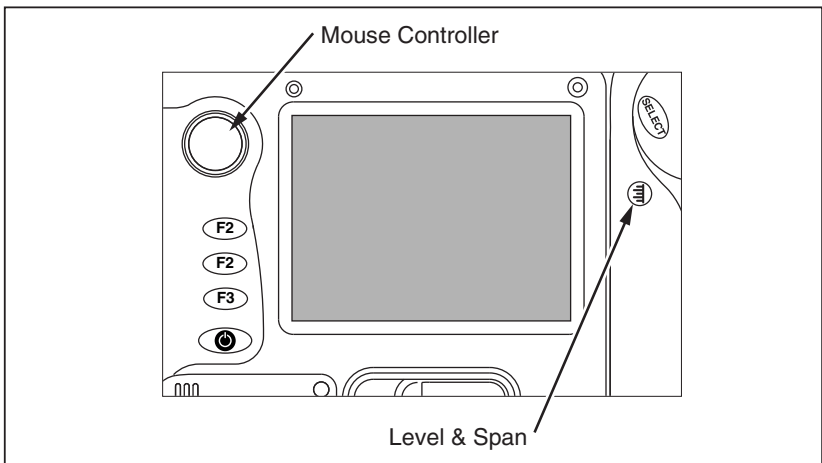

Figure 7. Setting the IR-Fusion® Blend Level
2. While continuing to press , use the mouse controller shown in Figure 7 to slide the IR-Fusion® blend level bar in the control box to the desired setting.